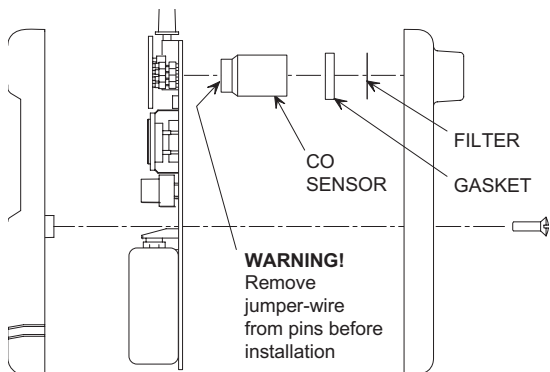

Figure 4. Sensor Installation
- See Figure 4. Remove the screw from the rear of the instrument; then lift off the front case and remove the printed circuit board assembly.